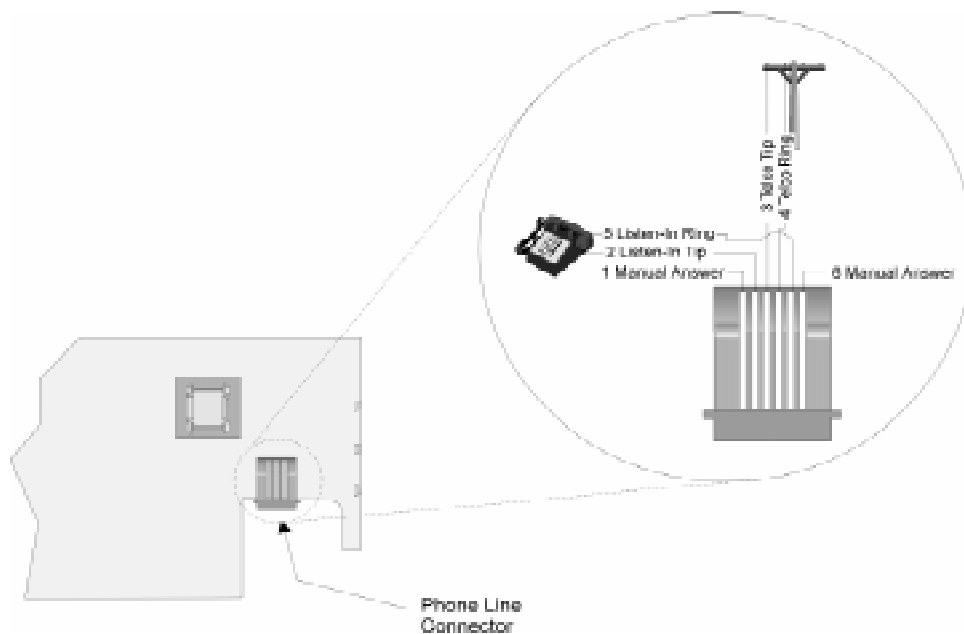

Figure 4-23 Phone Connector Pin-Out and Listen-in Wiring Diagram
3. Pick up the telephone the listen-in call is on. See Figure 4-23 for a diagram of how the listen-in phone should be connected (in parallel) with the phone line of the line card.